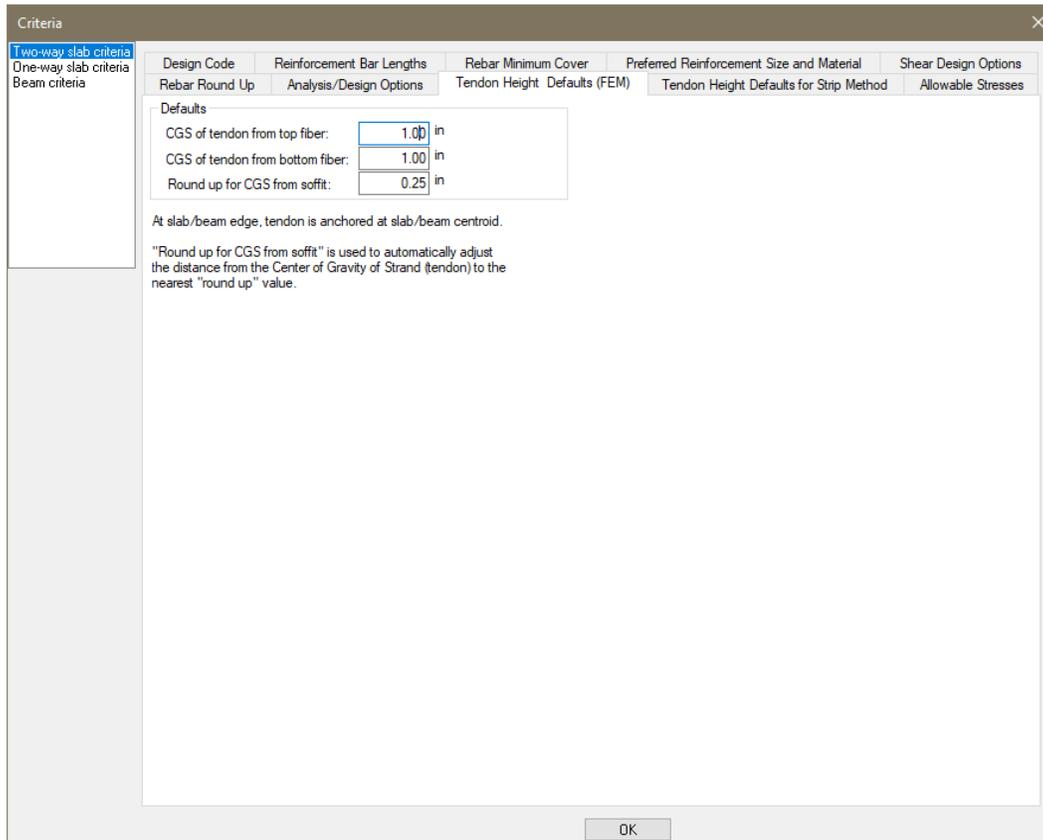

Figure 8-3
- Go to *Criteria* → *Design Criteria* and click on the *Tendon Heights*  icon. This will open the window shown in **FIGURE 8-3**.